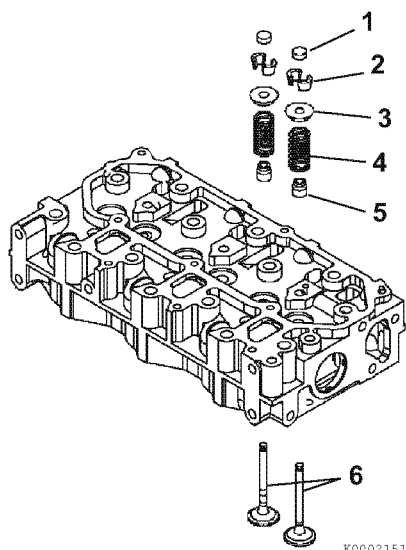

Figure 6-28
4. Install all the valves (**Figure 6-28, (6)**) in their proper location in the cylinder head.
5. Put the cylinder head on the workbench with the combustion side down to install the valve springs. Reinstall the valve spring (**Figure 6-28, (4)**) and spring retainer (**Figure 6-28, (5)**).
7. Insert the valve keeper (**Figure 6-28, (2)**) and slowly release the tension in the valve spring. Reinstall the valve cap (**Figure 6-28, (1)**). Repeat steps on all remaining valves.